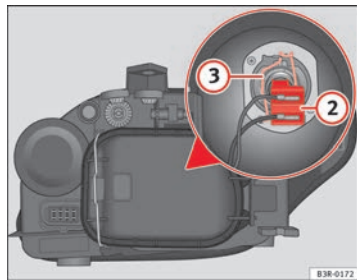

Fig. 209 Dipped beam headlights
- Pull the connector ⇒ fig. 209 ② from the bulb.
- Unclip the retainer spring ⇒ fig. 209 ③ pressing inwards to the right.